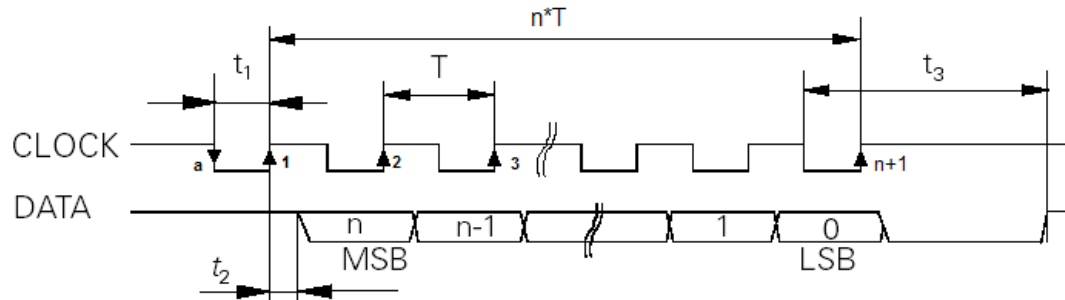

Figure 1 – Typical SSI Timing Diagram
Synchronous Serial Interface (SSI) allows for serial transmission of absolute position data (either binary or Gray code) from the encoder based on a timed clock pulse train from the controller. Connection between the controller and encoder is based on two signal lines, clock and data, which are usually differential for increased noise immunity. For each sequential clock pulse of the controller, the encoder transmits one data bit from shift registers on the encoder. Figure 1 shows a typical SSI timing diagram, which shows the sequential clock pulse train from the controller and the corresponding data bits.
The transfer of data from the encoder to the controller is initiated when the first “falling” edge (a) of the clock pulse train prompts the encoder to freeze the current absolute position data into the encoder shift registers and prepare for the coming clock pulse train from the controller. Typical SSI encoders trigger on the rising edges (as shown in Figure 1) where the first rising edge on the clock (1) prompts the encoder to set the first data bit (MSB) on the data line. The controller then latches and stores the data bit at the next “rising” edge (2) while also sending the next request for the subsequent bit. The process continues until all data bits (down to the LSB) have been clocked and stored on the Galil, after which, the clock signal remains high until the next position read cycle occurs. This cycle occurs every sample period of the controller (i.e. 1 kHz at TM1000). The Galil controller is configurable for a specific SSI encoder using the following **SI** command. Extended I/O and custom hardware/firmware modification are both necessary for any Galil controller to interface with SSI encoder data (contact Galil for an NRE quote).